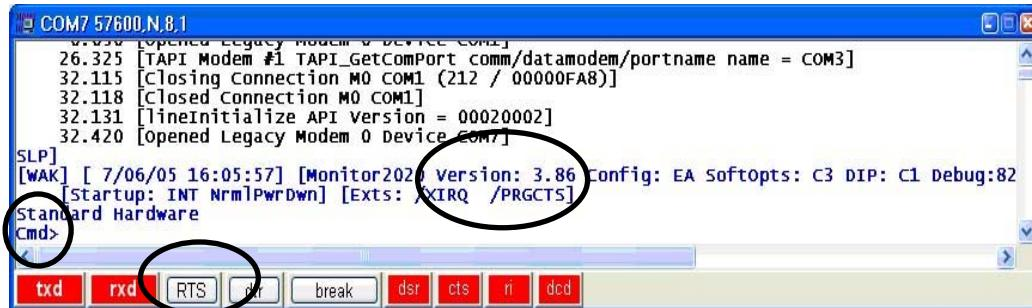

Fig. 8.3 – Monitor Configuration & Version Screen
On the Floating Terminal screen, click on **RTS** button to assert ( **RTS** ) BinComm and establish communications with the Monitor. If communication is established a screen similar to Fig. 8.3 should appear. Verify **Cmd>** prompt appears.
8.4.1 In a screen similar to Fig. 8.3, you should see the Monitor version number (i.e. 3.86) and the device configuration.